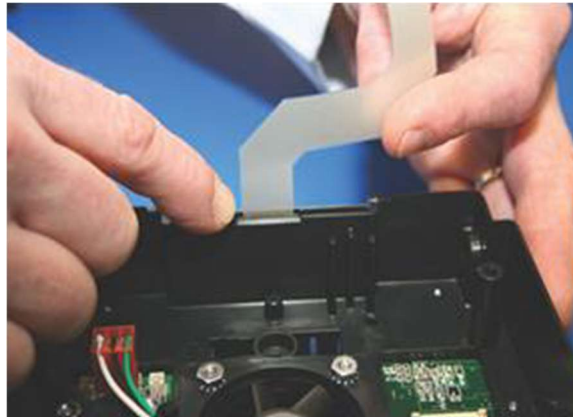

Figure 5.43
- Route the flex circuit from control panel keypad notched area of control panel enclosure section. (Figure 5.43)